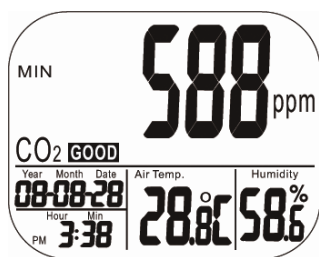

Fig. 4: Minimal value
- In MIN and MAX modes, it shows the minimum and maximum readings of CO2 on the main display and the air temperature and the humidity on the lower display. (Fig. 4)